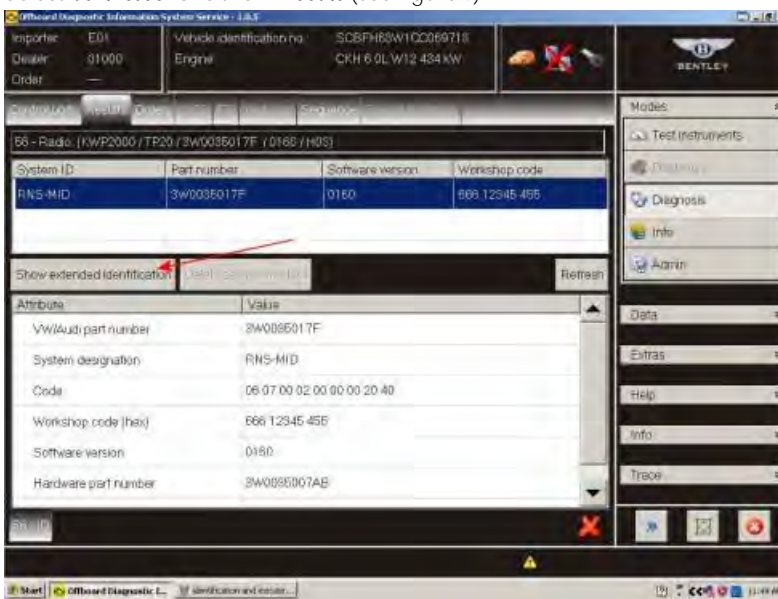

Figure 5
7. Select *Show extended identification* (see Figure 5)